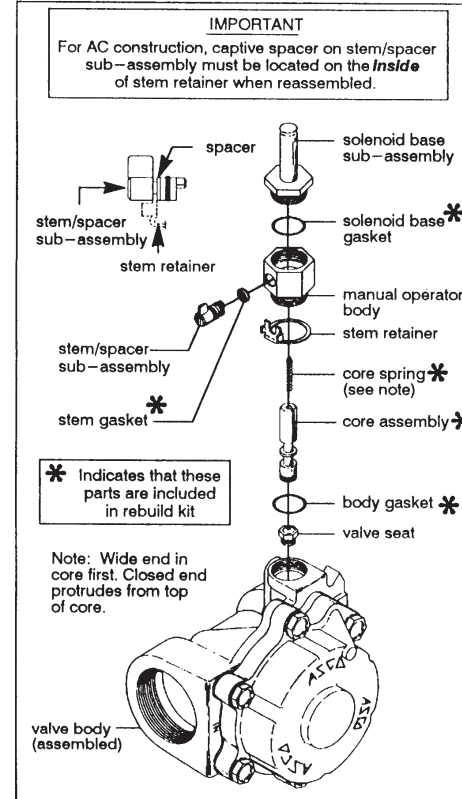
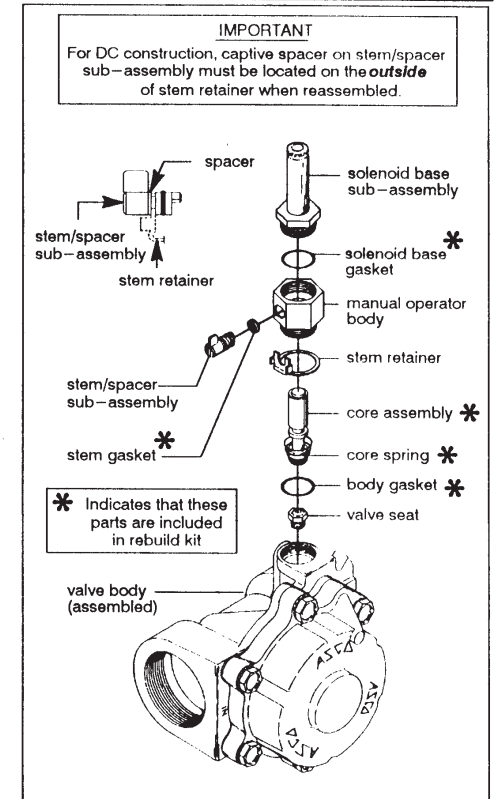

Figure 1. Manual Operator Assembly, AC Construction.
Figure 2. Manual Operator Assembly, DC construction.
2. For AC construction refer to Figure 1 on page 3; DC construction Figure 2 on page 3.